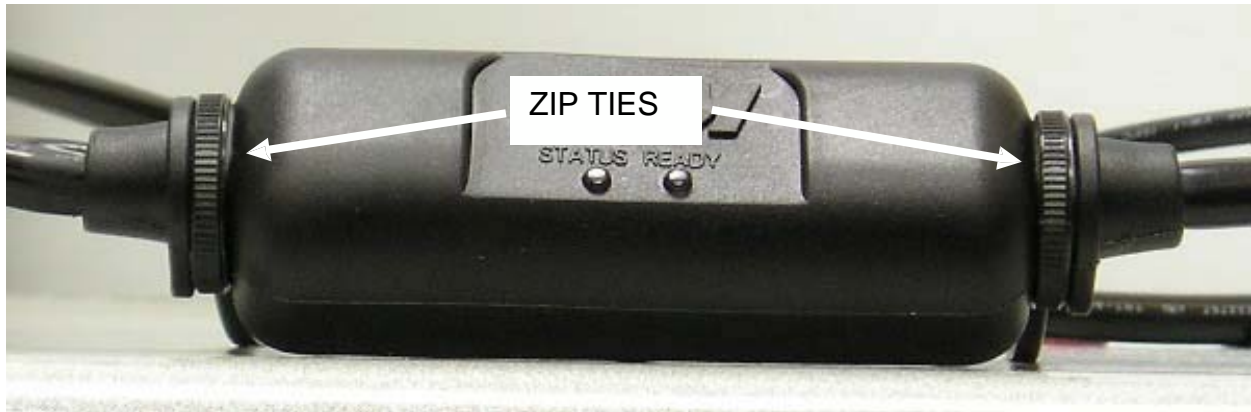

Figure 3. Inline Wideband UEGO Controller Mounting
2. Find a suitable in-cab or under hood mounting location for the Inline UEGO controller, away from any direct heat or water sources and shielded from the elements. Secure the controller using the supplied zip ties as shown in Figure 3.
The UEGO controller provides for quick and easy mounting with the supplied zip ties. See Figure 3 below.